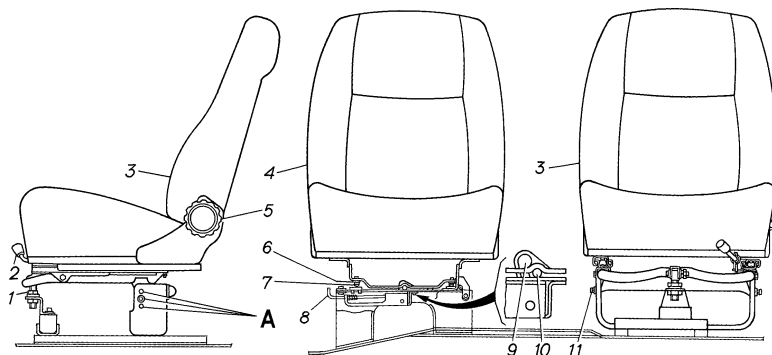

Fig. 4.1. **Seats Adjustment:**
*To adjust the seat in the forward/backward direction* raise handle 2 (fig. 4.1) upwards, slide the seat to the required position and release the handle. Carefully rocking the seat to and fro, make sure that the latch teeth are engaged with the teeth of the locking rack.